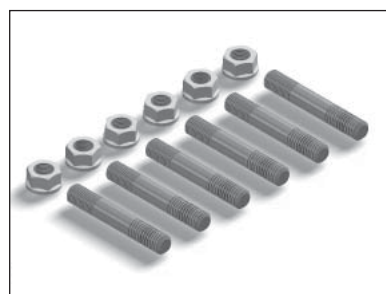

Figure 74
3. Install the studs (**Fig. 74**) hand tight in the PTO aperture pad using a stud driver. Do not use air tools to install studs.